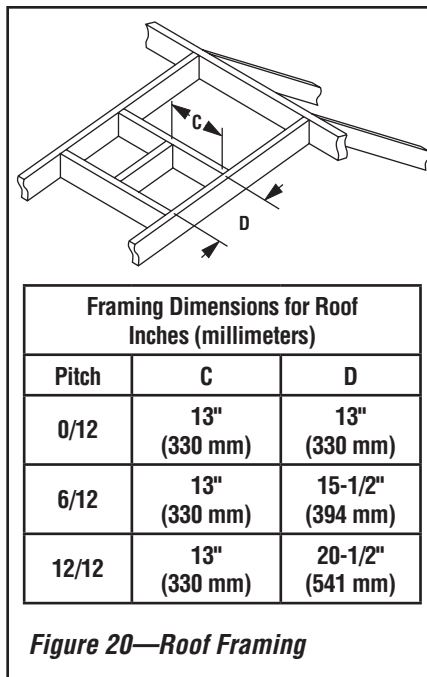

Figure 20—Roof Framing
Analyze the vent routing and determine the quantities of vent sections and number of elbows required. Refer to **Vertical Vent Figures and Tables on Page 16** to select the type of vertical installation desired. Vent sections are available in net lengths of 4-1/2" (114 mm), 10-1/2" (267 mm), 22-1/2" (572 mm), 34-1/2" (876 mm) and 46-1/2" (1181 mm). Refer to the **Vent Section Length Chart on Page 13** for an aid in selecting length combinations. Elbows are available in 90° and 45° configurations. Refer to **Figure 20 on Page 15** for the SV8 E45 and SV8 E90 elbow dimensional specifications.
H. Frame roof opening—Identify location for vent at the roof. Cut and/or frame opening per Roof Framing Chart (**Figure 20**).
Analyze the vent routing and determine the types and quantities of sections required 4-1/2" (114 mm), 10-1/2" (267 mm), 22-1/2" (572 mm), 34-1/2" (876 mm) and 46-1/2" (1181 mm) net section lengths are available. It is recommended that you plan the venting so that a joint does not occur in the ceiling or roof joists. Allow for elbows as indicated in **Figure 20 on Page 15**.